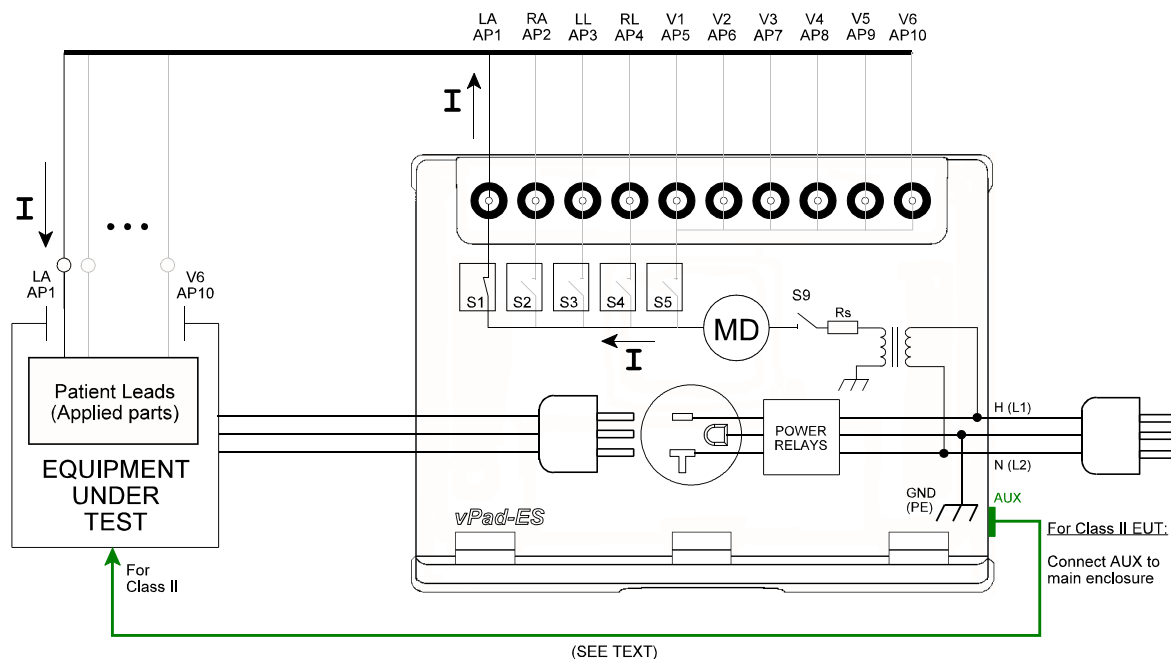

Figure 51 - Lead isolation test diagram.
To prepare for the test, connect the power cord of the EUT to the test receptacle, and connect the EUT patient leads to the corresponding binding posts of vPad-ES as shown in **Figure 51**. If the EUT is Class II (two-wire power cord), use a jumper lead to connect the green "AUX" test jack on the right side of the Base Unit to the EUT enclosure. See Section 4.9.4 for more information.
While the test voltage is either OFF or ON, individual patient leads or lead groups may be selected by pressing the corresponding radio button under the numeric readout. Selecting a particular lead or group of leads closes the corresponding switch or switches S_1 to S_5 of **Figure 51**, connecting the measuring device (MD) between the lead(s) and the isolation transformer. As previously described, V1-V6 (AP6-AP10) are treated as a single lead. When the ISO Test Voltage is ON (S_5 closed), the resulting leakage current is measured over three ranges (200, 2000 or 20000 μA full scale), with the range being automatically selected by vPad-ES, as required.
If the equipment is ungrounded and thus has a two-wire power cord, a test jumper lead must be used to connect the enclosure of the equipment to the "AUX" jack of the vPad-ES, as shown in *Figure 51*. If the "AUX" connection is omitted when testing patient leads of ungrounded (Class II) equipment, then no leakage current will be measured.